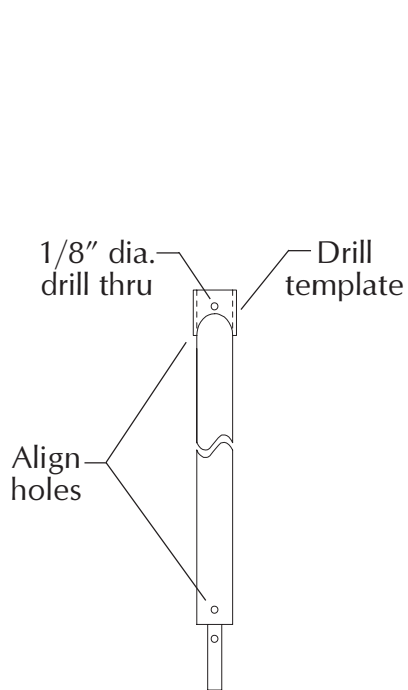

Figure 9-3
9.3. Drill hole in rod extension (Figure 9-3).